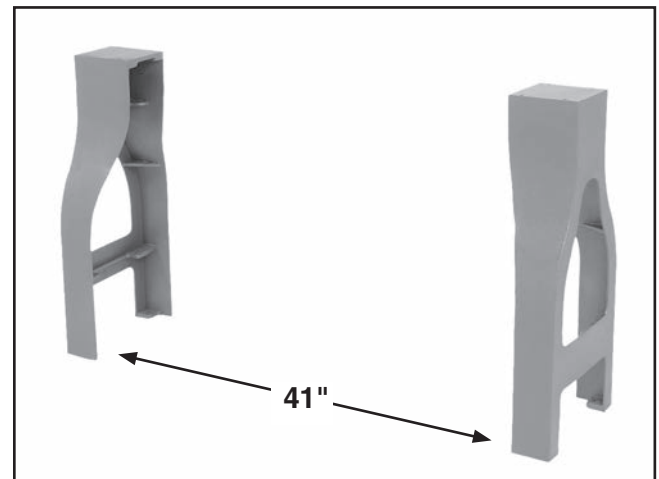

Figure 9. Stand legs approximately 41" apart to prepare for mounting the lathe.
1. Stand the legs up approximately 41" apart and get them reasonably aligned, as shown in **Figure 9**.